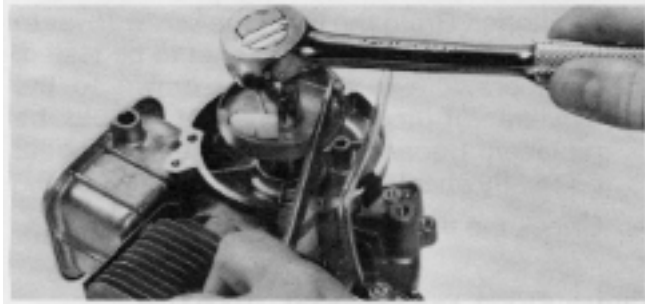

Figure 67
1. Remove the nut securing the starter pulley to the crankshaft. See Fig. 67.